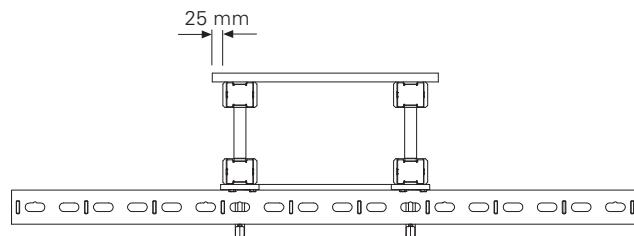

Fig. B7.05
2. Plywood projects over left and right edges by 2.5 cm. (Fig. B7.05)
3. Mount coupling compression plate (12) to each GT 24 Girder at the level of the steel waler and secure with K wedges (13).